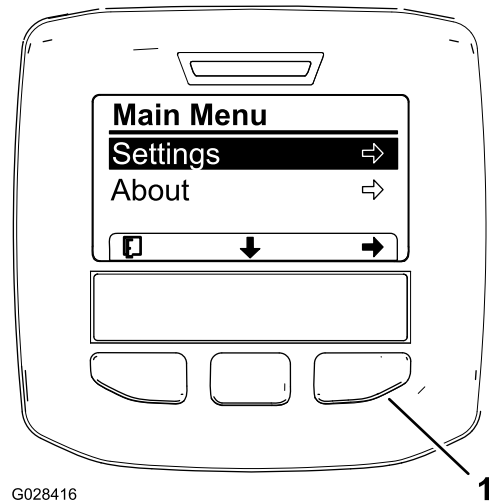

Figure 20
3. Press the center selection button to access the Main Menu (Figure 20).
5. Press the left selection button to save your selection(s), exit the Settings menu, and return to the Main Menu (Figure 20).
9. Press the left selection button to exit the Settings menu and return to the Main Menu (Figure 20 and Figure 22).